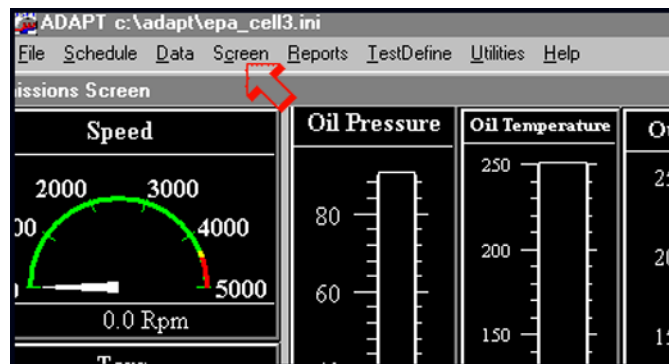

Figure 14
- 117 Click on "Screen" from the menu bar. See the arrow in Figure 14.